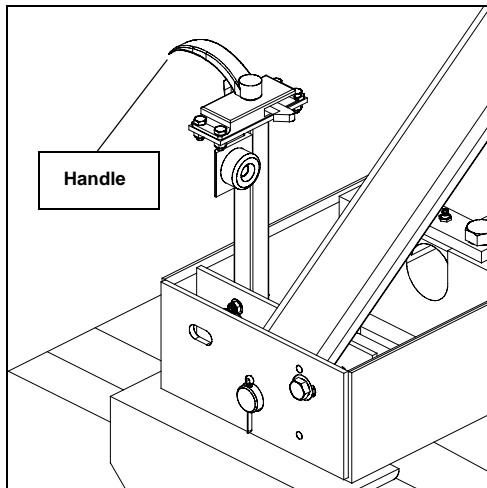

Figure 5. Body safety prop release handle
2. Pull the handle (see Figure 5. "Body safety prop release handle") to release the safety prop, then pull down the safety prop.
2. Bring the safety prop (see Figure 5. "Body safety prop release handle") back to its vertical position. The release handle must click.